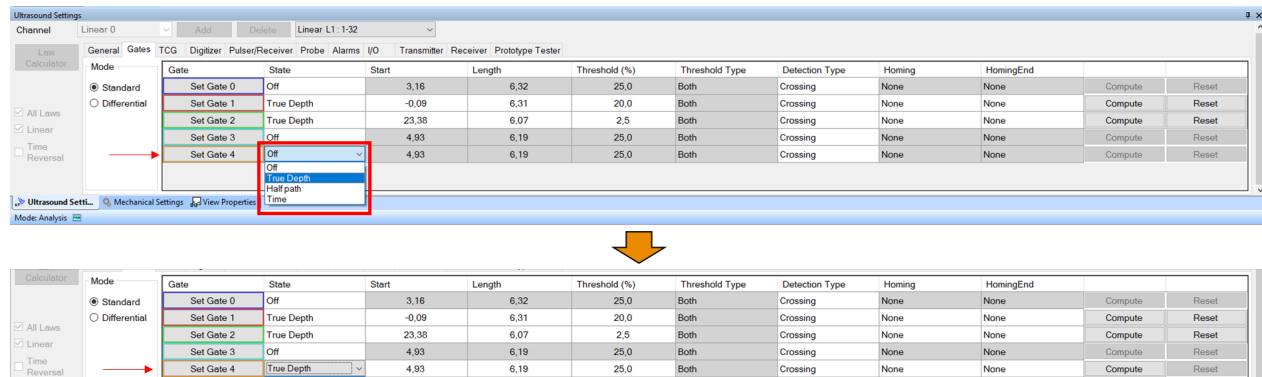

Figure 11: Activating Gate 4 from Gates page in the analysis mode
- In Figure 11, the user activates **Gate 4** which was already off in the data file. The user switches the State from "Off" to "True Depth"